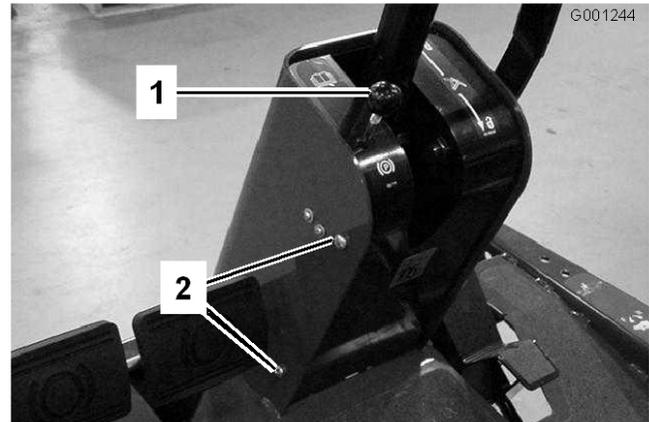

Figure 69
1. Remove the knob from the parking brake and screws from the steering column cover (Figure 69).